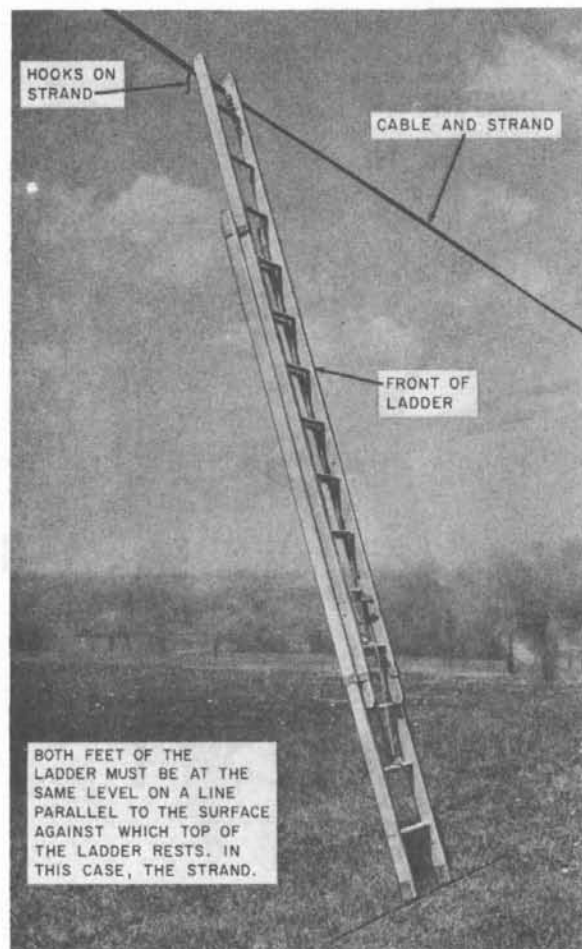

Fig. 5—Base of Ladder Properly Positioned
5.02 Set a ladder only on secure footing. Set both feet of the ladder at the same level and on a line parallel to the surface on which the top of the ladder rests. If necessary, employ a B Ladder Foot or remove earth from beneath the high side to bring it to the level of the lower side. *Never increase the length of a side rail by nailing a board to it.* If a ladder leans to either the right or the left, it is not properly placed. Always place an extension ladder with the top section to the front. A well placed ladder is shown in Fig. 5.